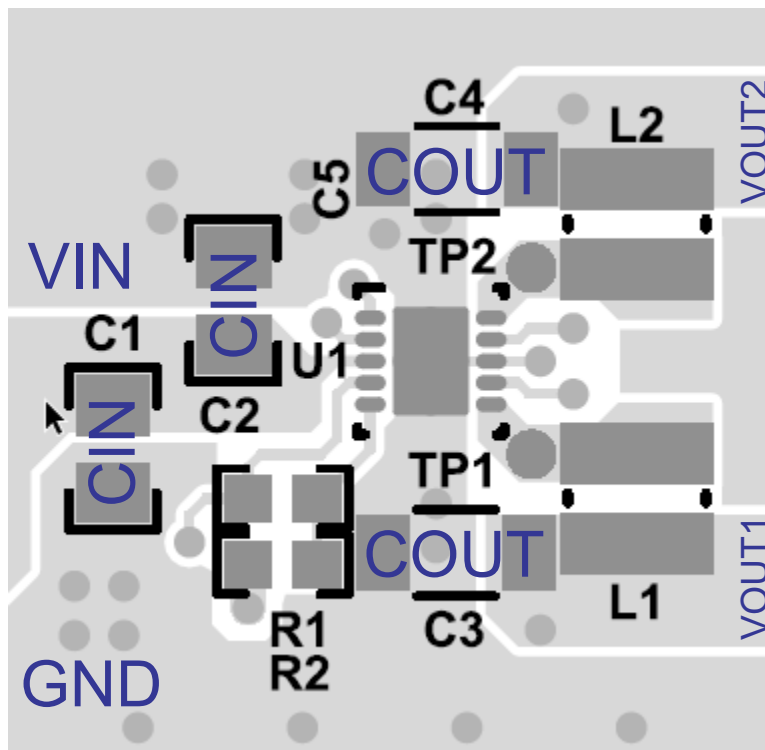

图 11-1. Layout Diagram
- It is critical to provide a low-inductance, low-impedance ground path. Therefore, use wide and short traces for the main current paths as indicated in bold in 图 11-1.